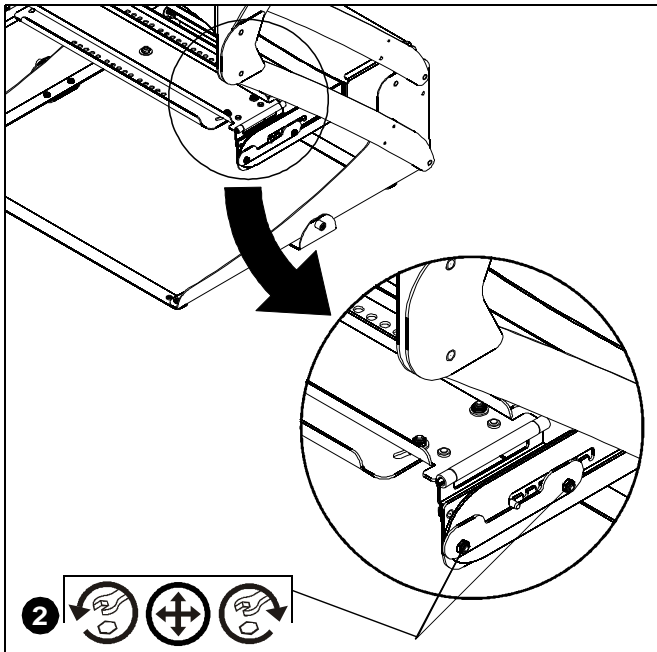

Figure 14
- To shift projector backward or forward (or up or down), loosen the nuts on each end of the yaw adjustment bracket. (See Figure 14)
- Tighten nuts. (See Figure 14)